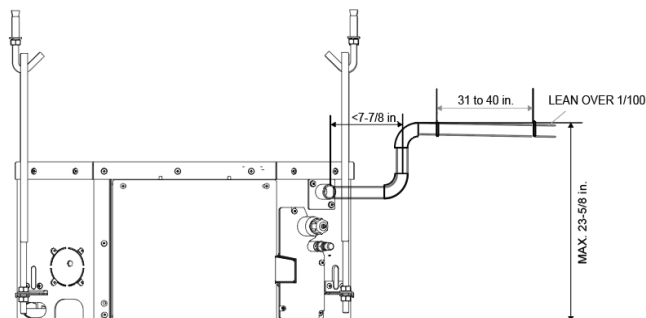

Fig. 14 — Condensate Piping
- The highest point in the condensate piping should be as close to the unit as possible. See Fig. 14.